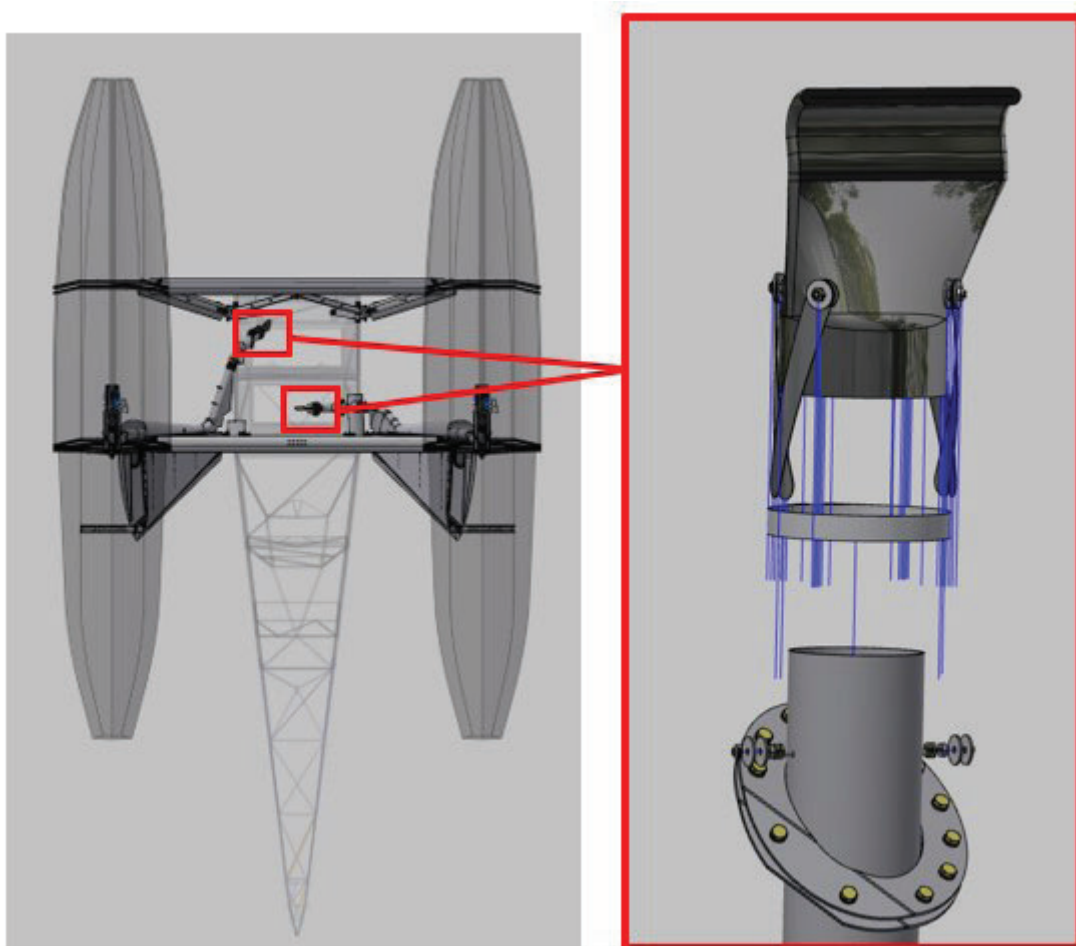

Figure 2 - Platypus Valve Removal
7. Remove forward and aft platypus valves. If safety straps are installed, then disconnect the safety straps from the studs mounted to the fill tube. Leave studs sealed in fill tube. (See Figure 2).
8. Install forward and aft platypus valves and safety by either: (See Wipaire Service Letter 235). (See Figure 2).